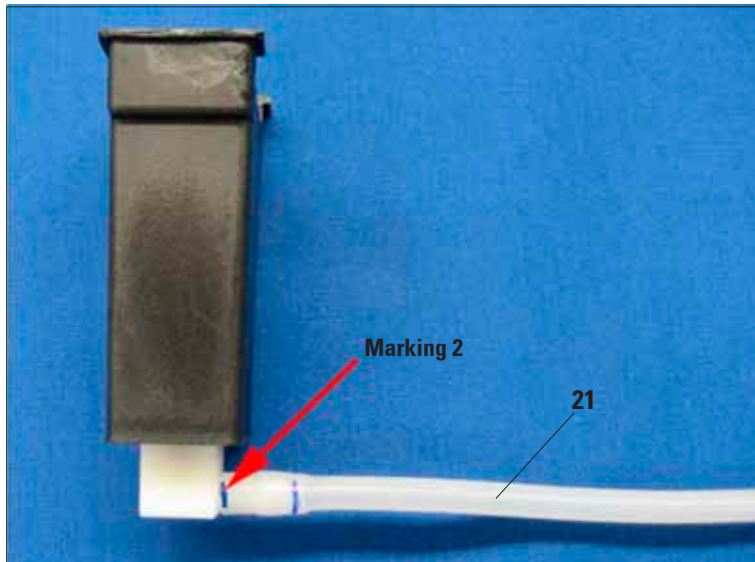

Fig. 26
- Then push the hose (21) fully onto the connector by twisting until the end of the hose is flush against the side surface of the connector (Fig. 26).